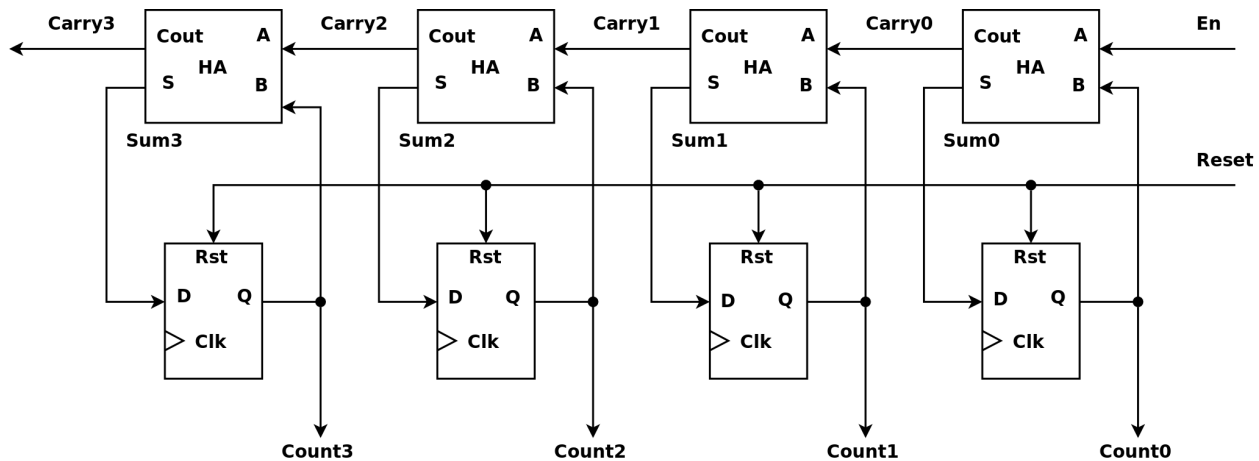

Figure 1: 4-bit Binary Up-Counter
With the components you have been introduced to at this point, you can construct a wide variety of useful synchronous circuits. One particularly important circuit we will discuss in this lab is the binary counter. A simple binary up-counter constructed from half-adders and flip-flops is depicted in Figure 1. It is interesting to note that the half-adders are chained together to create a ripple-carry adder that increments the binary value stored in the flip-flops by 1 on every rising-edge of the clock if the enable (En) is high. If En is low, the binary value stored in the counter does not change. Notice the *Reset* signal, which connects to each flip-flop in Figure 1. We have not discussed *Reset* signals yet; however, the idea is quite simple. For certain synchronous circuits, the beginning state is important. *Reset* provides a mechanism to initialize the state of a synchronous circuit. When the *Reset* signal is asserted, the flip-flops will *reset* to a known state. Typically, the *reset* state will be '0'; however, it is not uncommon to *reset* a flip-flop to '1'. Just like the clock signal, the *Reset* signal is a global net distributed to all synchronous components.
1. Supposed we want to build a 32-bit counter using the circuit in Figure 1. If the gates used to construct the half-adders in the circuit are assumed to have a 2ns delay each, and the flip-flop overhead is assumed to be negligible, what is the maximum clock frequency we could use to drive our counter? Given the clock frequency you just calculated, how long would it take this counter to roll over (i.e. return to 0). Please show your calculations.
1. Design the up-counter illustrated in Figure 1.
- (b) Create a source file called 'up_counter.v' and construct the circuit found in Figure 1 using Verilog. The code snippet below should help you get started.